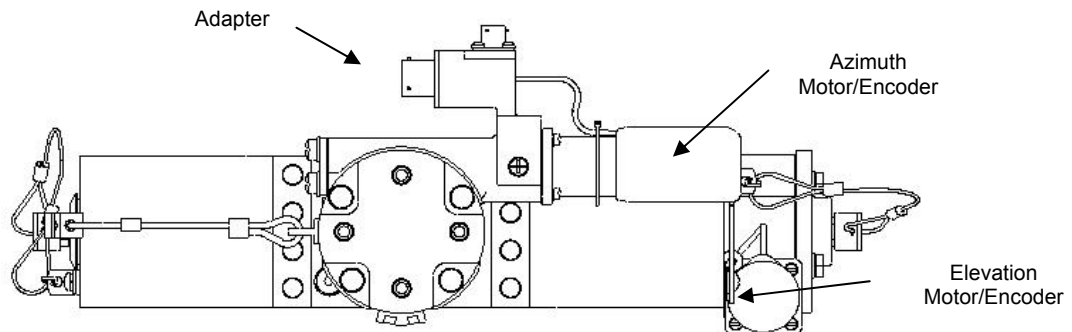

Figure 7. Top View of SX-16 Nightsun® Gimbal Assembly
- Using the same mounting location and screw holes that held the old adapter to the Gimbal, attach the new adapter to the Gimbal (Figure 7).
- Using the same mounting locations and screw holes that were used for the old motors, attach the new motor/encoders for azimuth and elevation (Figures 7 and 8).